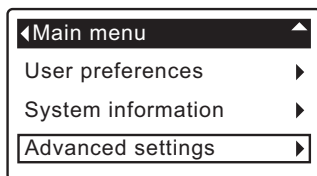

FIG. 71
2. Press the DOWN ▼ button to scroll through the menu options until **Advanced settings** is highlighted (See Figure 71).